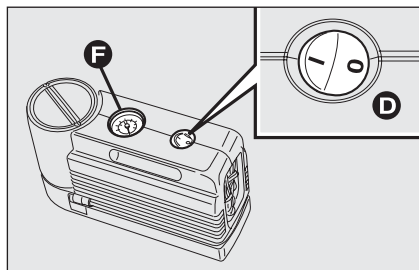
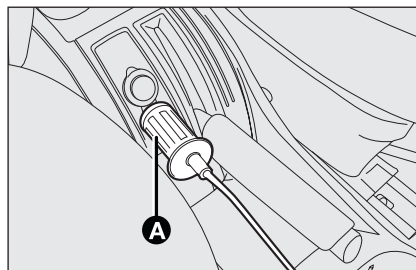

fig. 6
fig. 7
- ☐ make sure the compressor switch **D**-fig. 6 is set to **0** (off), start the engine and fit plug **A**-fig. 7 into the nearest current outlet and then turn on the compressor by setting switch **D** to **I** (on). Inflate the tyre to the pressure specified in paragraph "Inflation pressure" in section "Technical Specifications". Check tyre pressure on gauge **F** with compressor off to obtain precise reading;